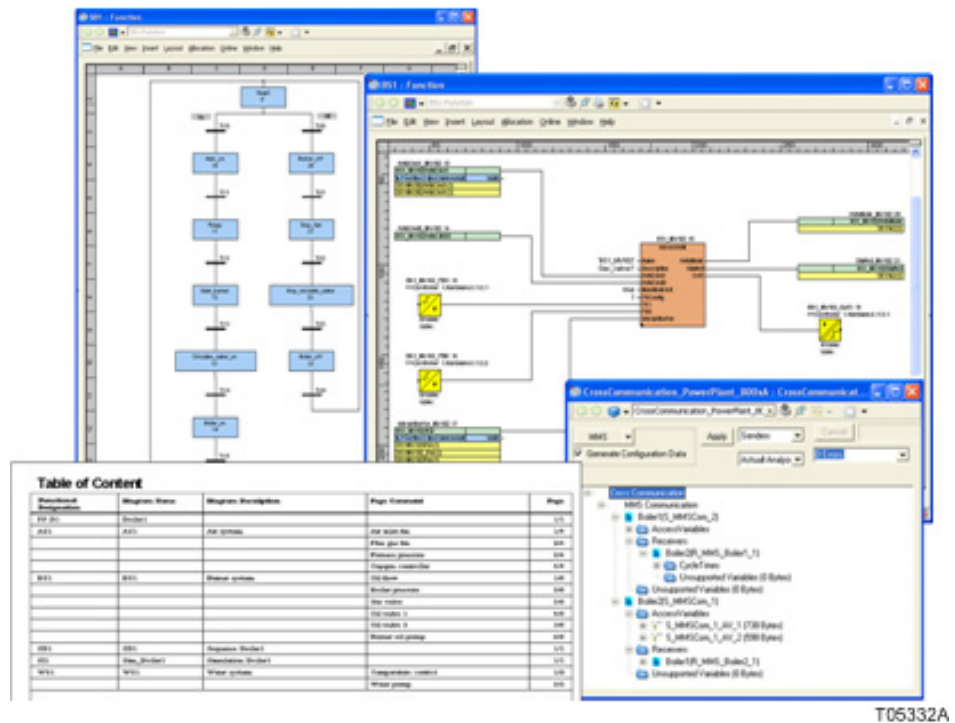

Figure 29. Function Designer
**Function Designer** (Figure 29) is used to engineer the automation system configuration from a process perspective. It is embedded in Control Builder and is a comprehensive editor, which allows engineering of a complete control loop on a single diagram comprising of functions, function blocks, control modules, sequences, and I/O channels. It supports design and online debugging. Function diagrams can be nested in multiple levels and the signal interconnections between function diagrams are automatically documented and provide built-in navigation.